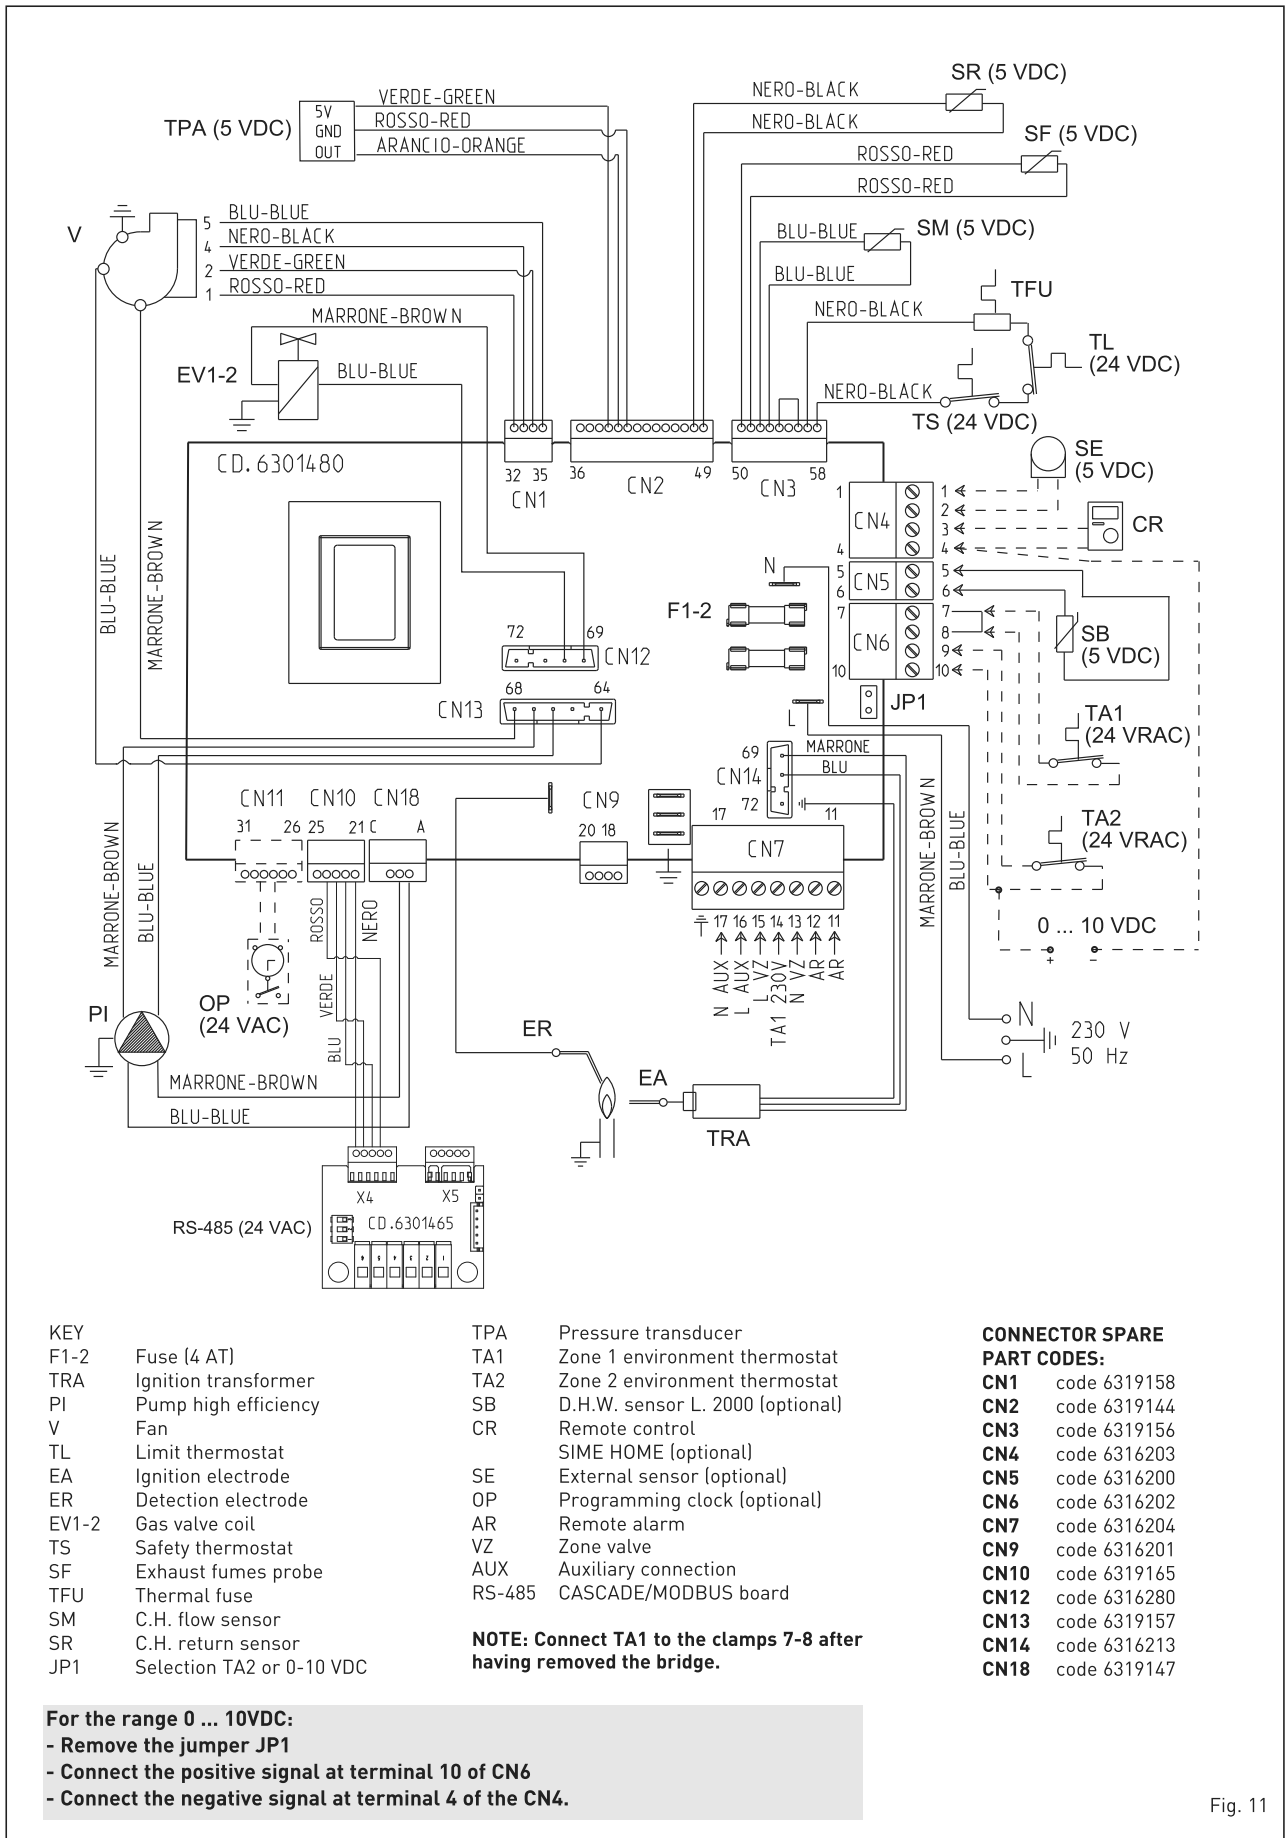

Fig. 11
The electrical connections to the boiler refer to the wording on the diagrams (fig. 11).
2.8 BOILER ELECTRICAL (fig. 11)